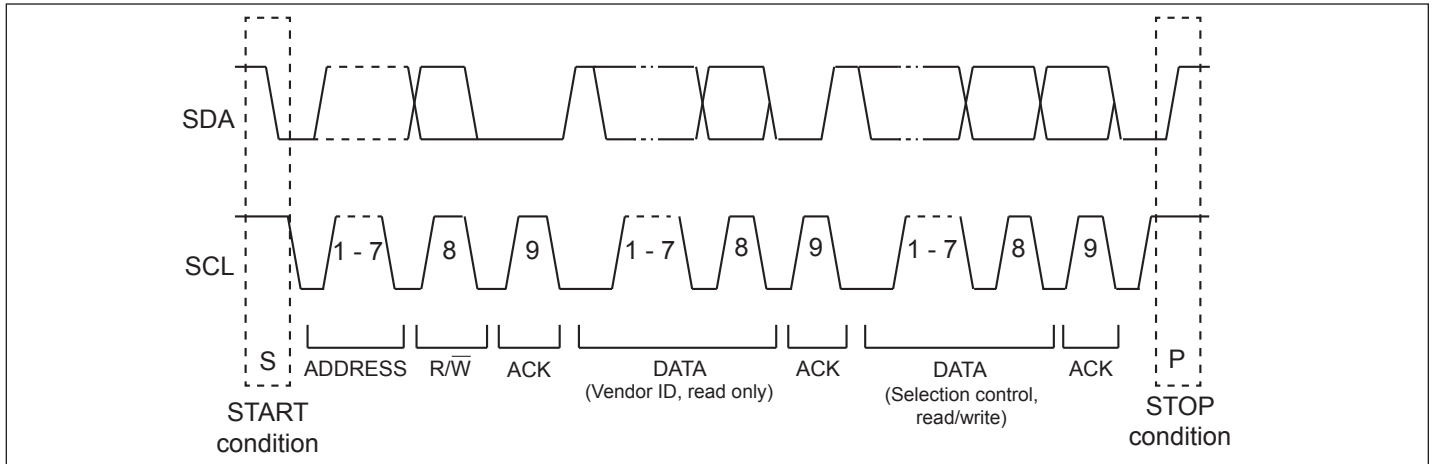

Figure A1: A Complete Data Transfer
Data transfers follow the format shown in Fig.A1. After the START condition (S), a slave address is sent. This address is 7 bits long followed by an eighth bit, which is a data direction bit (R/W)—a 'zero' indicates a transmission (WRITE), and a 'one' indicates a request for data (READ). A data transfer is always terminated by a STOP condition (P) generated by the master. However, if a master still wishes to communicate on the bus, it can generate a repeated START condition (S) and address another slave without first generating a STOP condition. Various combinations of read/write formats are then possible within such a transfer.